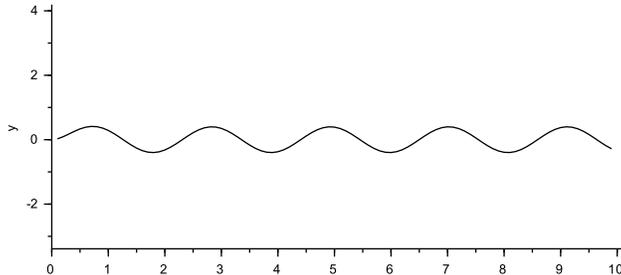

Figure 1.37: The Xcos model solution of  $\frac{dx}{dt} = 2 \sin 3t - 4x$ ,  $x(0) = 0$ .
**Start** under the **Simulation** menu item. The ODE solver can be changed through **Setup** under the **Simulation** menu. The solution is shown in Figure 1.37.